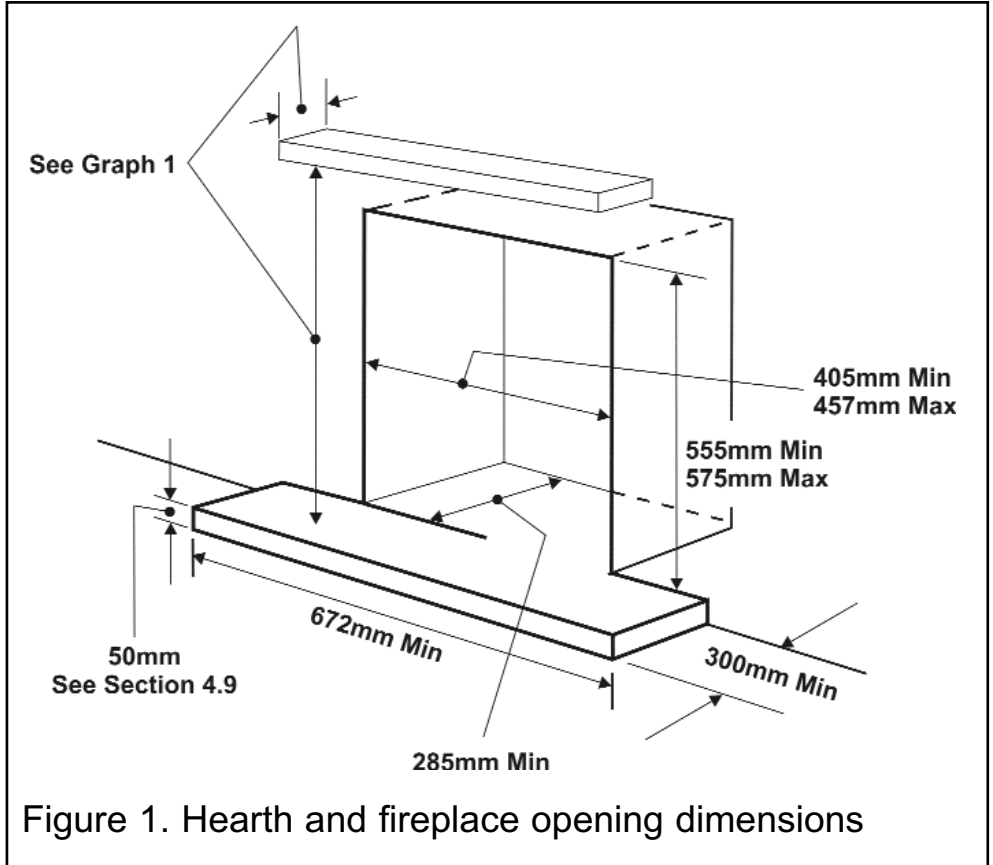

Figure 1. Hearth and fireplace opening dimensions
4.2.1 To a fireplace complete with surround and hearth as shown in figure 1 and complying with BS1251 after removal of the fireback and sufficient material behind the fireback for a debris catchment space. The required fireplace, hearth, debris catchment area and clearance dimensions are shown in figure 1.
- It is recommended that a hearth should be installed as in figure 1. If a hearth is not fitted, the fire must be installed so that the distance from the base of the fireplace opening in the wall to the finished floor level is at least 85mm. Where there is no floor covering or carpet and the floor is of a type that is likely to be covered in such a way in the future then the distance from the base of the fireplace opening in the wall to the floor level should be increased to at least 160mm. The minimum shelf height will have to be taken from the base of the fireplace opening.